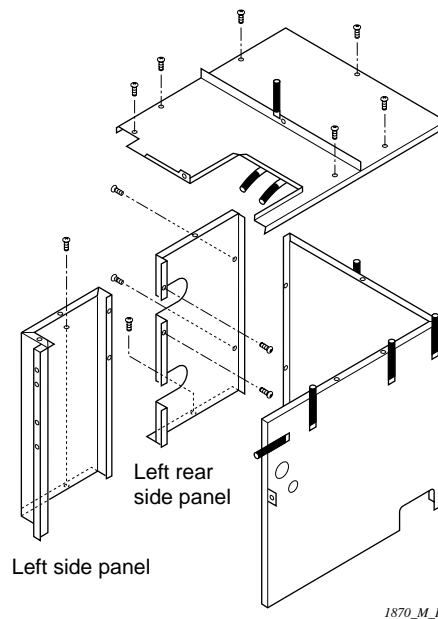

Fig. 3
### (3) Replacing the scroll (SC) compressor (PC unit) (Ref. Fig. 3, 4)